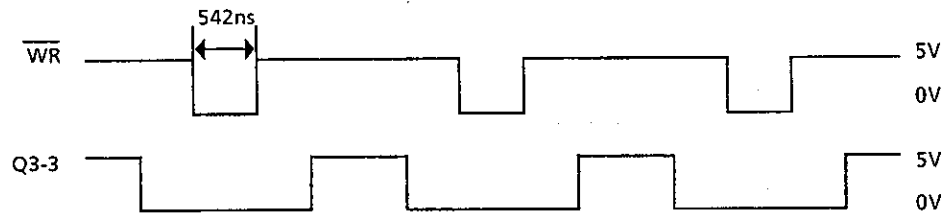

Figure E-3-5
• Yes Are,  $\overline{\text{WR}}$ , and BUS signals of Q3 pin 3 as specified in Figure E-3-5?
• Yes Is 4 pin of Q6 identical to  $\overline{\text{WR}}$  signal in Figure E-3-5?